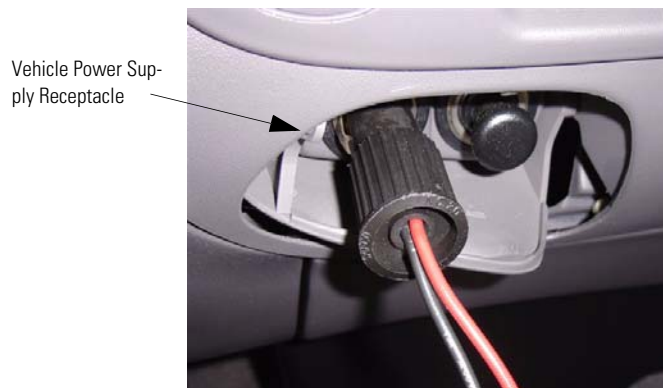

Figure 3.7 Vehicle Power Supply Power Cable Inserted In Car
- 3 Plug the other end of the power cable into the vehicle power supply receptacle as illustrated in Figure 3.7.